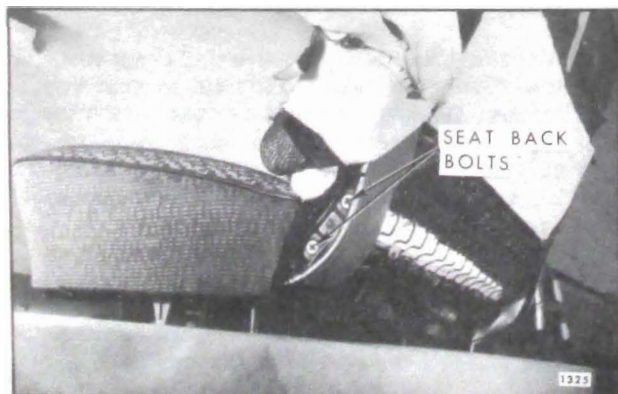

Fig. 15-17 — Seat Back Attachment
4. At each end of seat, remove hog rings securing lower edge of seat back trim to seat bottom frame. Raise or turn back seat back trim to expose bolts securing seat back frame to seat cushion frame (Fig. 15-17). Where seat back lighter or courtesy light is present disconnect wire from seat cushion frame.